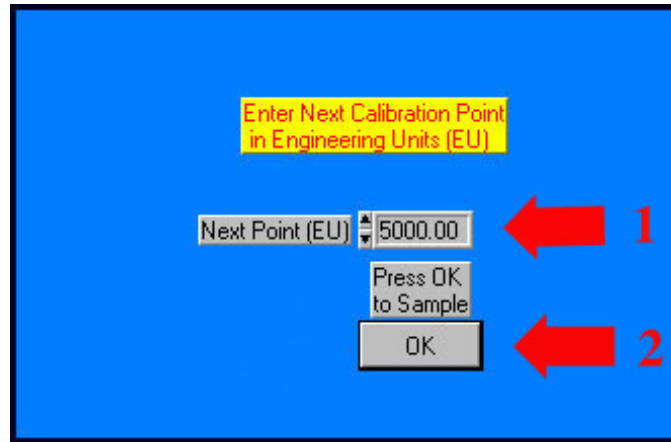

Figure 15
- 121 Return to the control room. Select the “OK” button under “Press OK to Sample.” See arrow 2 in Figure 15.